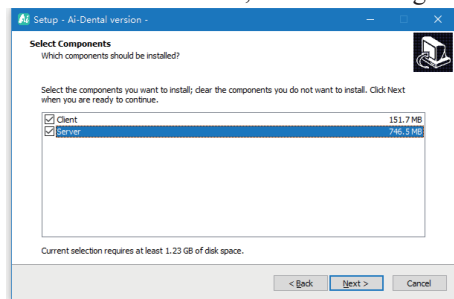

Figure 6
e) Select components. The user selects the corresponding component as needed, and then click the "Next" button, as shown in Figure 6: